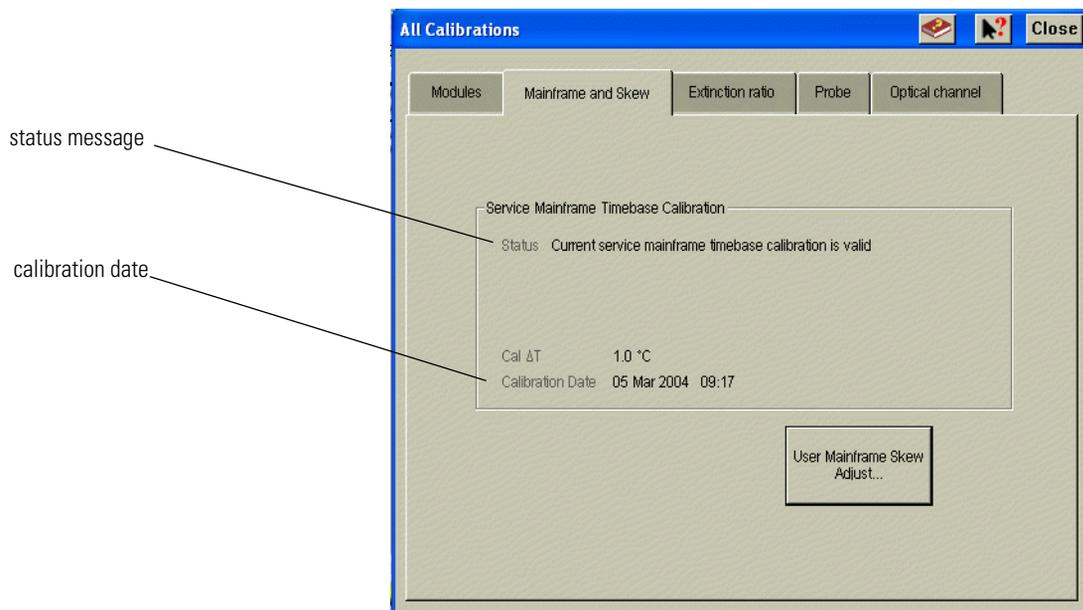

Figure 1-24. Mainframe timebase calibration status and date
- a On **Calibrate** menu, click **All Calibrations**. Click the **Mainframe and Skew** tab. Record the calibration date for use later in this procedure. See Figure 1-24.
- g** Confirm that the displayed calibration date is the same date that you recorded in Step 2. Verify that the displayed status message reads “Current service mainframe timebase calibration is valid.” See Figure 1-24 on page 32.